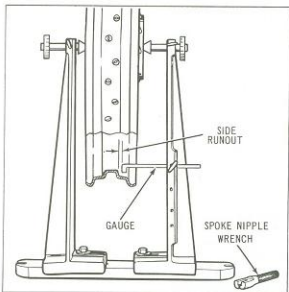

Figure 2-24. Truing Rim Sideways
6. Adjust truing stand gauge to side of rim well as shown in Figure 2-24 so rim at highest point will strike gauge as wheel is rotated slowly. Loosen nipples at highest point of rim on gauge side and tighten nipples on opposite side the same amount. Repeat this operation until rim runs true sideways. Reverse loosening and tightening of nipples as explained above if rim moves too far away from gauge. After each loosening and tightening of spokes, check rim in relation to hub as explained in above paragraphs. Rim should be trued to within 1/32 in. sideways runout.